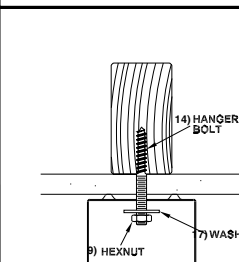

Fig. 7
Place a **7/8 Dia. washer (17)** and Hexnut (9) on each installed Hanger Bolt (14) and tighten to secure the fixture housing to the ceiling. **See Fig. 7.**